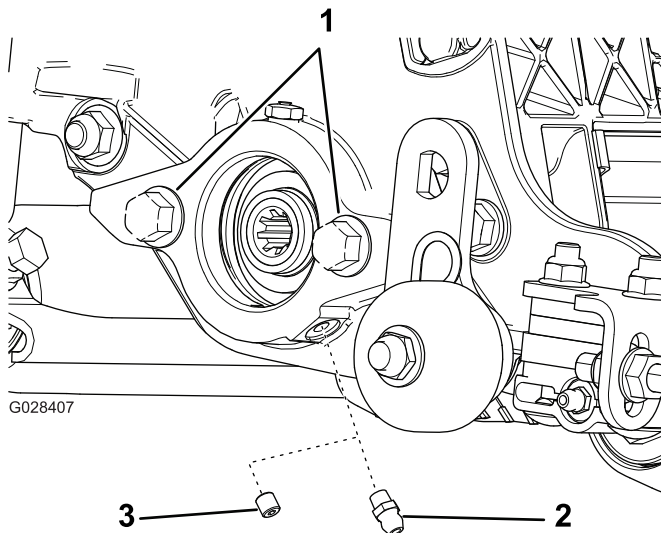

Figure 5
1. Remove and discard the set screw on the reel-motor side-plate (Figure 5).
2. Install the straight grease fitting (Figure 5).
3. If there are no bolts on the reel-motor side-plate, install them (Figure 5).